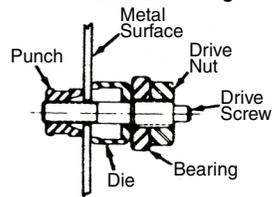

Figure 2
3. Thread the drive nut onto the 1/2" knockout manual drive screw so the threads are fully engaged, and assemble the 1/2" die against the drive nut bearing. Insert the drive screw through the pilot hole, and thread the 1/2" punch onto the screw until the points contact the back side of the box. (See Figure 2) Align the four index lines on the outer surface of the die with the hole center line axes, and begin to punch the hole.
8. Assemble the larger punches and dies to the appropriate drive screws in the same manner as with the 1/2" knockout. (See Figure 2)